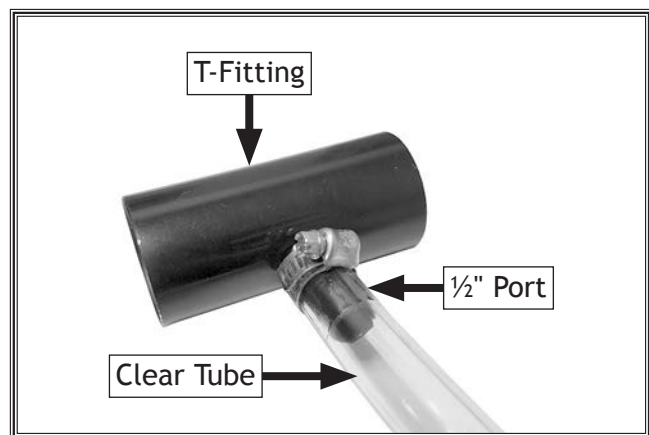

Figure 4. Clear tube placed over T-fitting port.
3. Slide other end of clear tube over ½" port on T-fitting (see Figure 4).